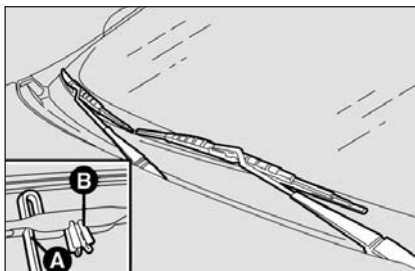

fig. 22
- raise the windscreen wiper arm **A-fig. 22** and position the blade so that it forms an angle of 90° with the arm;